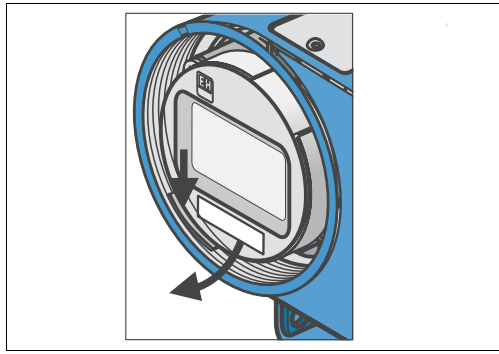

Fig. 12: Removing display
1. Unscrew the lid over the display and push the tab towards the outside (Fig. 12).